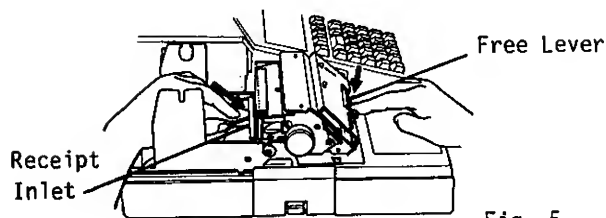

Fig. 5
6. Insert the paper end into the Receipt Inlet, feed the paper in while pressing down the Free Lever (or feed the paper in while pressing the [RF] key). (Fig. 5)